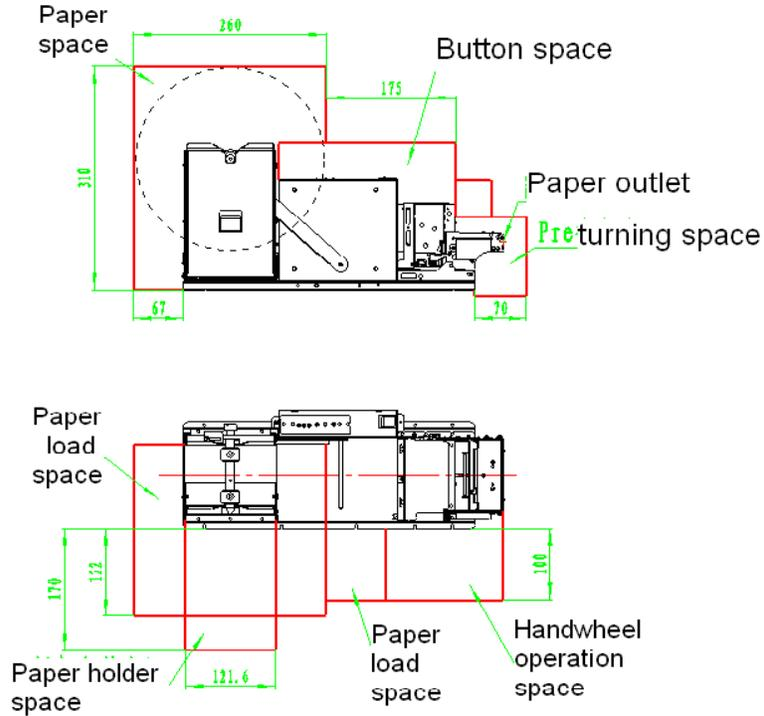
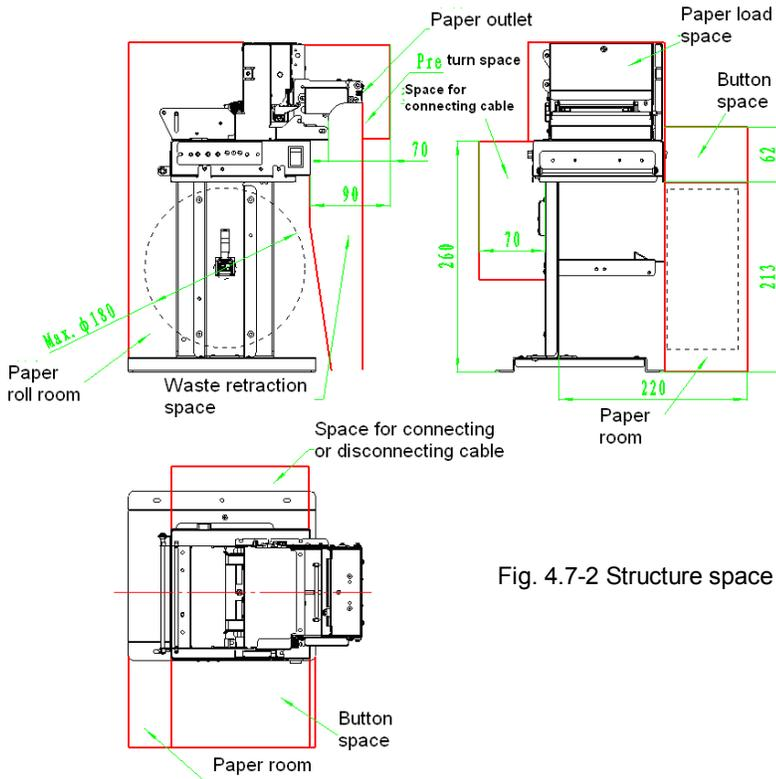

Fig. 4.7-1 MTP7632 space with standard paper holder
Fig. 4.7-2 Structure space compatible with MTP7632 vertical holder
Refer to the dimension as below in the design for reserving spaces (see Fig. 4.7-1 and Fig.4.7-2 MTP7632 structure space)
2. Shown as “2” item in the Fig. above: After Presenter finishes the printing, the paper which is not needed shall retract shown as “2” item in the Fig. above. Therefore enough space should be reserved and waste collection device is designed to keep the retracted paper. (The size is shown in Fig.4.7-2);